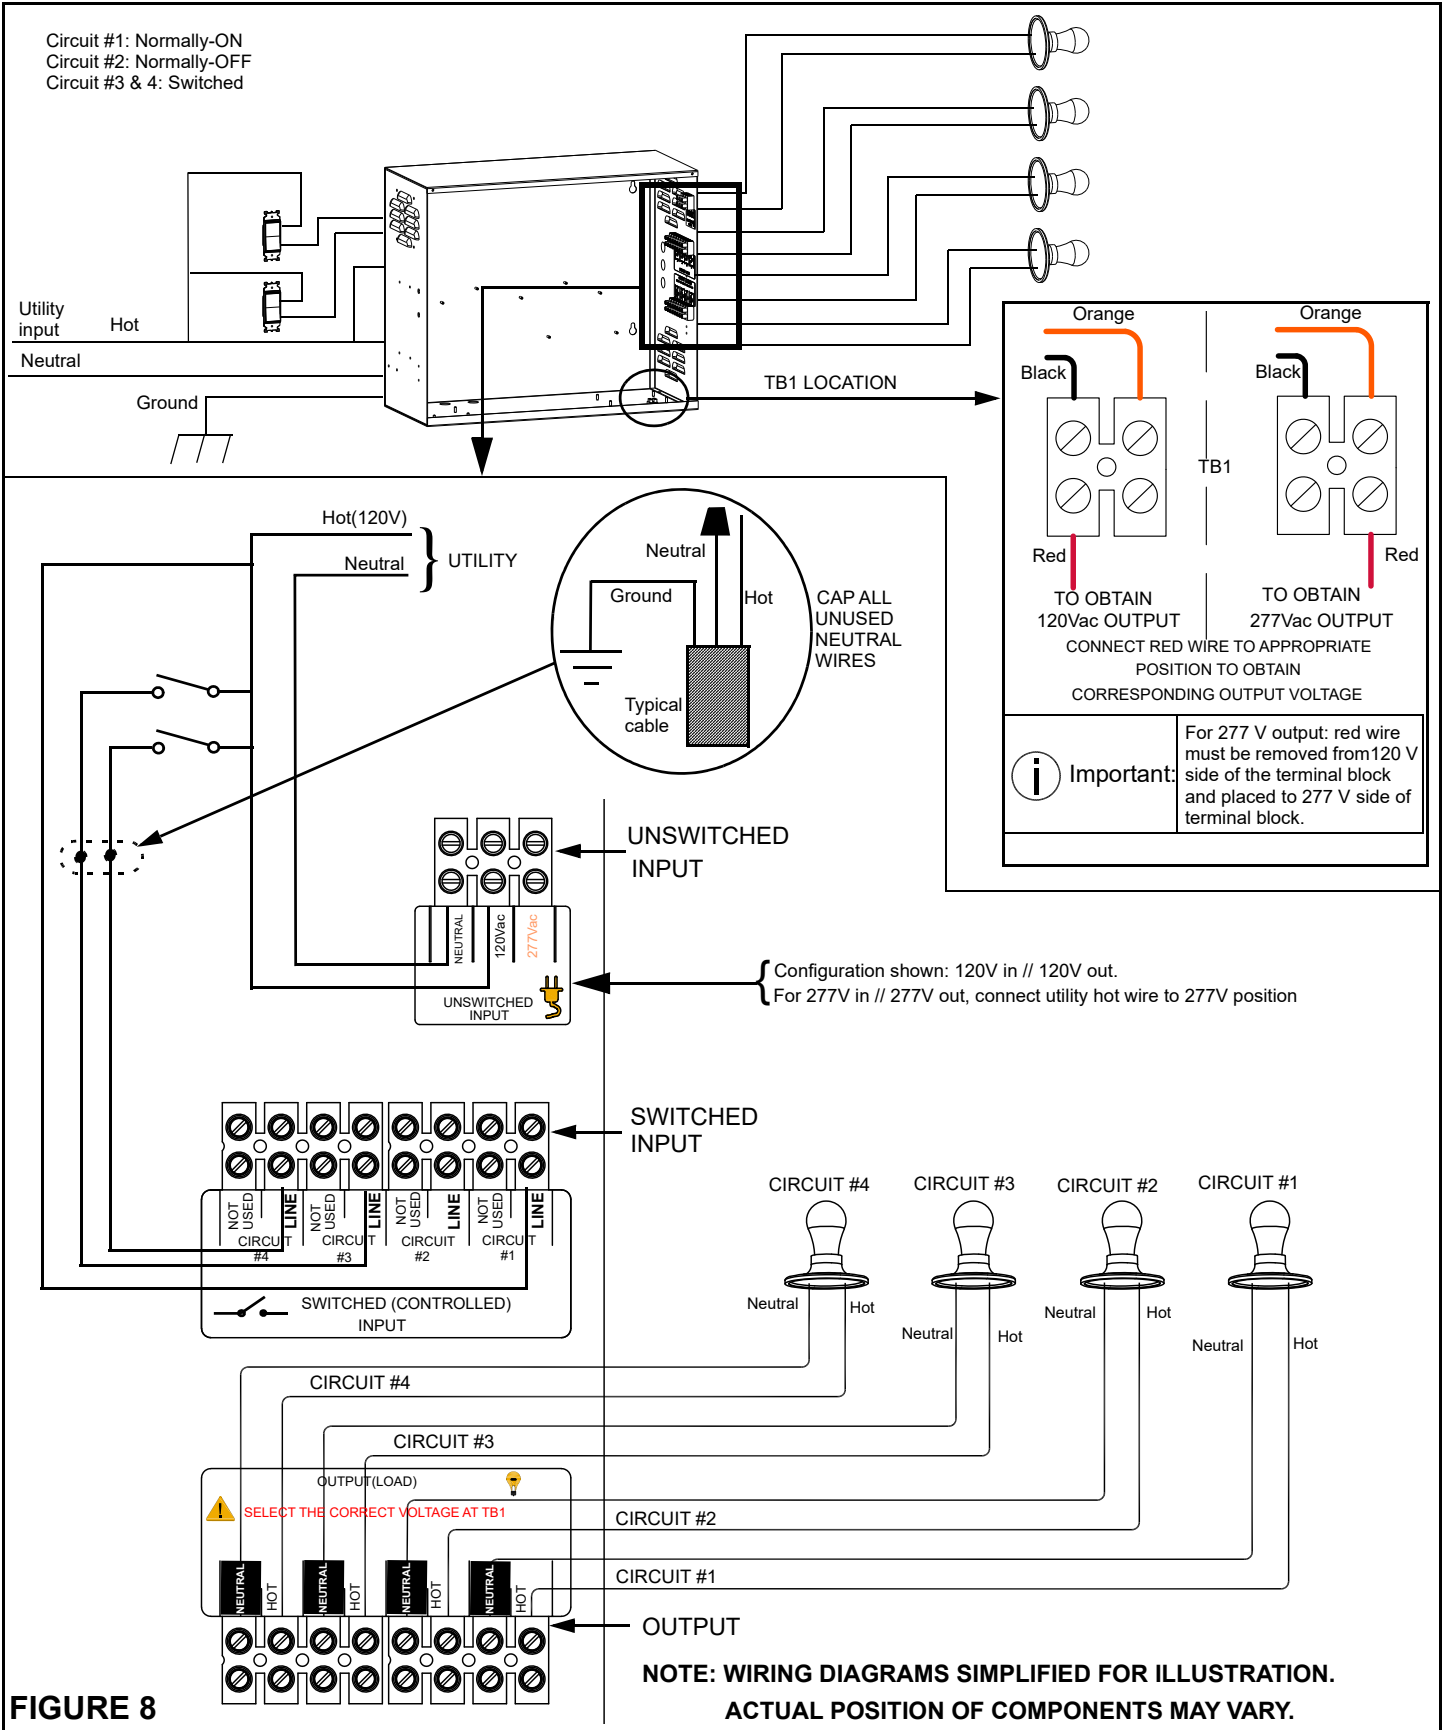

FIGURE 8
- d. **Combination of Normally-On, Normally-Off and Switched Load Operation** (Refer to Figure 8 for wiring details).